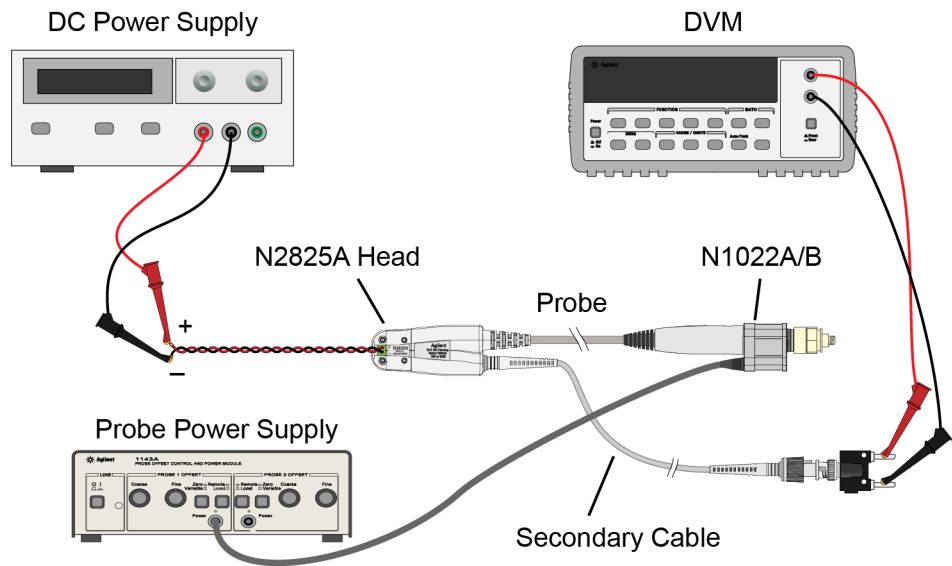

Figure 54 Test Setup for Measuring V_{out}
- 4** Move the multimeter's leads to the banana plug on the output of the N1022A/B as shown in Figure 54.
- 10 Connect the multimeter's leads to the banana plug on the output of the N1022A/B as shown in Figure 54 on page 106.